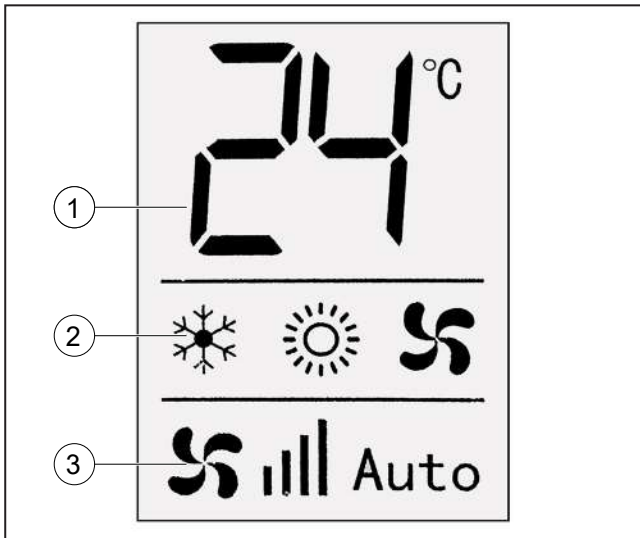

Fig. 5
When the air conditioner is powered from the mains but is off, the display shows only the room temperature in the first field ("Fig. 5" ref. 1).
When the air conditioner is on, in the centre field ("Fig. 5" ref. 2) the icons that describe the operating mode are highlighted:
In the third field ("Fig. 5" ref. 3) the fan operating mode is shown.
The two figures in the first field ("Fig. 5" ref. 1) normally indicate the room temperature detected by the air conditioner inside the camper.